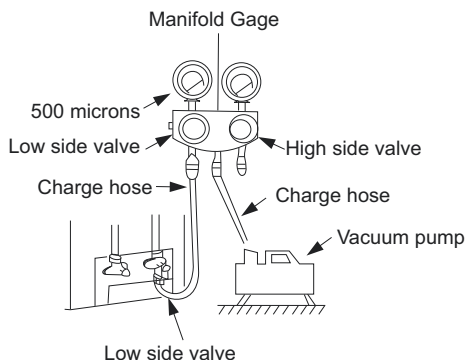

Fig. 16 —Manifold
3. Fully open the low side of the manifold gage (see Fig. 16).